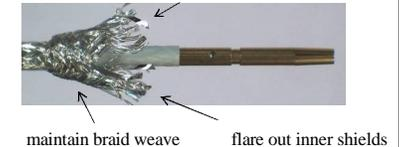

Figure 5 Lay braids flat
- 7) Inspect and clean connector body as needed. Install the connector body over the dielectric and under the shields until the center contact is fully seated (Fig. 5). Verify that the center contact is captivated.
- 8) Smooth all braids down over the rear of the connector body covering the knurl, maintain braid weave as much as possible (Fig. 5). Trim off stray braids at the shoulder (Fig. 5).